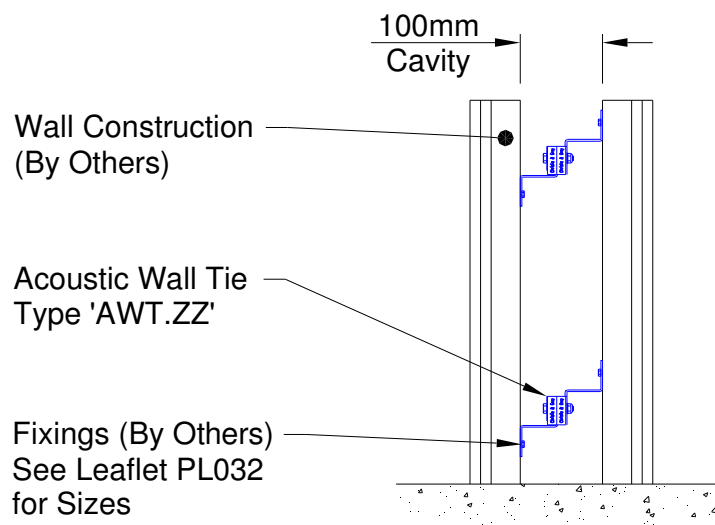

Figure 6
- e). Alternative fixing for internal double partition walls with cavity width of 100mm nominal using acoustic wall tie type AWT.ZZ (See Figure 6).